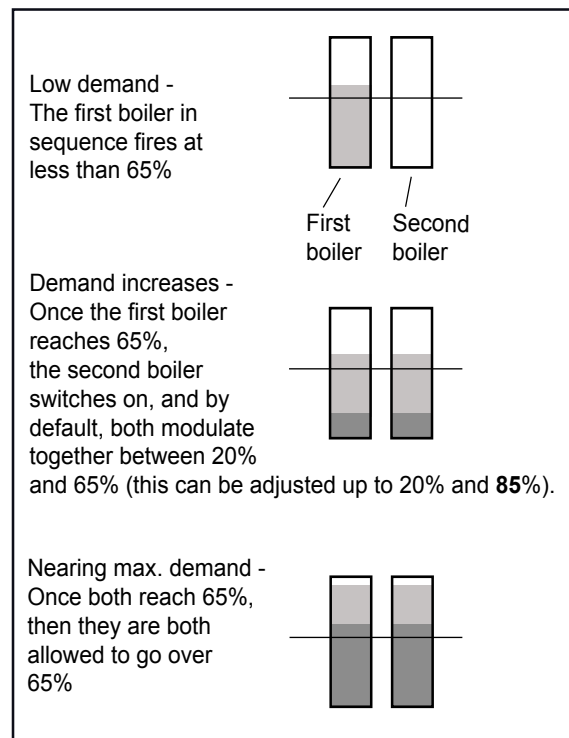

Figure 40. Lead Lag Operation, 2 boilers.
- If the heating demand increases so that the firing rate of that first boiler rises to your boiler configurations Base Load Value (see Figure 40 or Figure 42), the next boiler in the sequence will start up and begin firing at 20 to 35% fan speed (depending on your configuration). After this, the entire configuration of boilers will modulate up or down together, in reaction to the changes in demand.